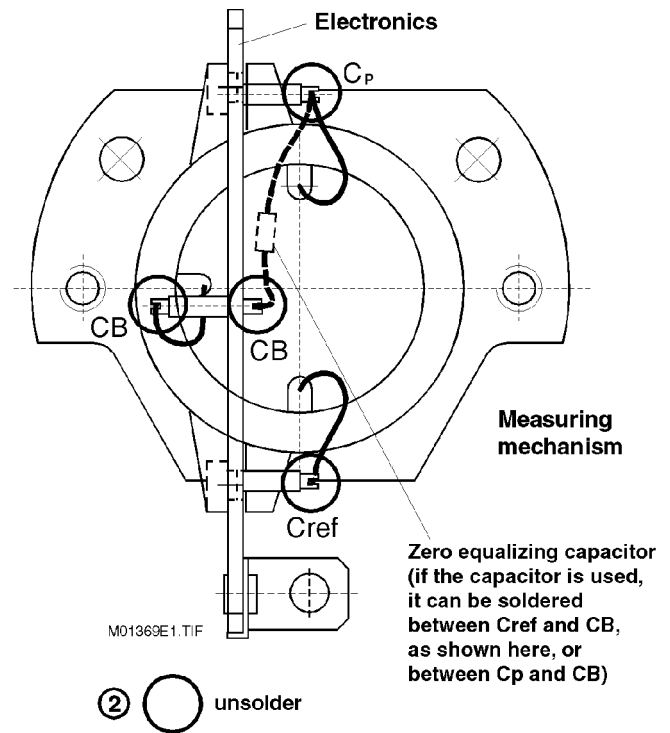

Fig. 23.
(see Fig. 23 and 24)
2. Unsolder the **wiring** between the measuring mechanism and the electronic unit - solder terminals **Cref**, **Cp** and **CB** (under certain circumstances, twice). Observe soldering instructions! (Fig. 23).